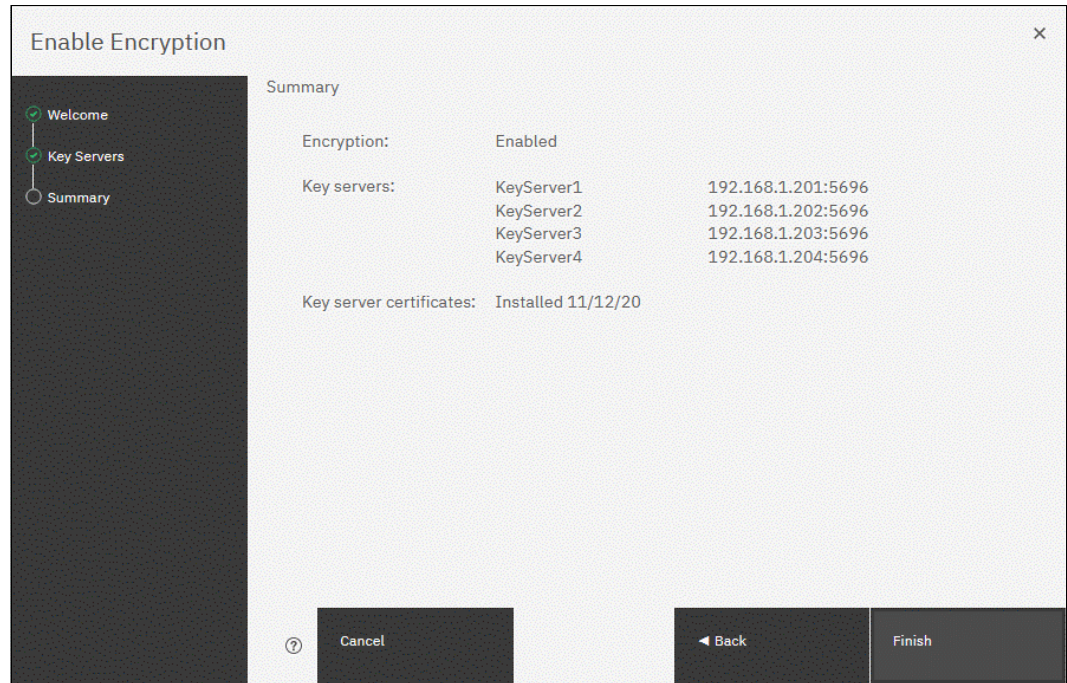

Figure 12-35 Finish enabling encryption using SGKLM key servers
10. The key server configuration is shown in the Summary tab, as shown in Figure 12-35. Click **Finish** to create the key server object and finalize the encryption enablement.